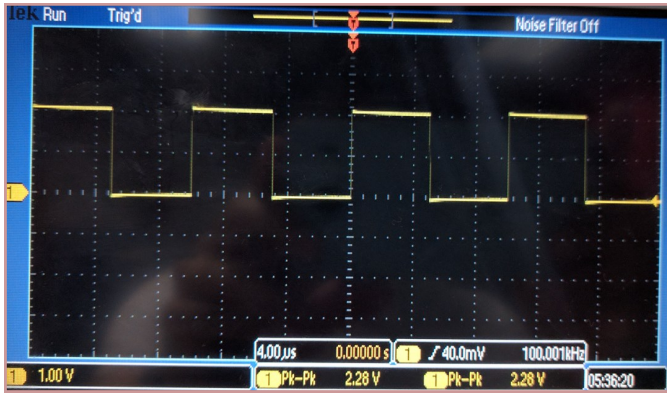

Figure 13. Square wave with no capacitor connected.
2. Set the function generator to output a 2V peak to peak (P-P) square wave with a 1V offset and 100 KHz frequency. This frequency is chosen so that it is fast enough that it won't charge up the capacitor but is slow enough that transmission line effects aren't a factor. Without the capacitor connected, your scope screen should look like Fig. 13. This will be your reference waveform. Set up a peak to peak measurement. You can increase the voltage output later if the voltage level drops too low to make a reliable measurement when the capacitor is connected. This will become apparent later. Always ensure that square wave does not go below zero volts.